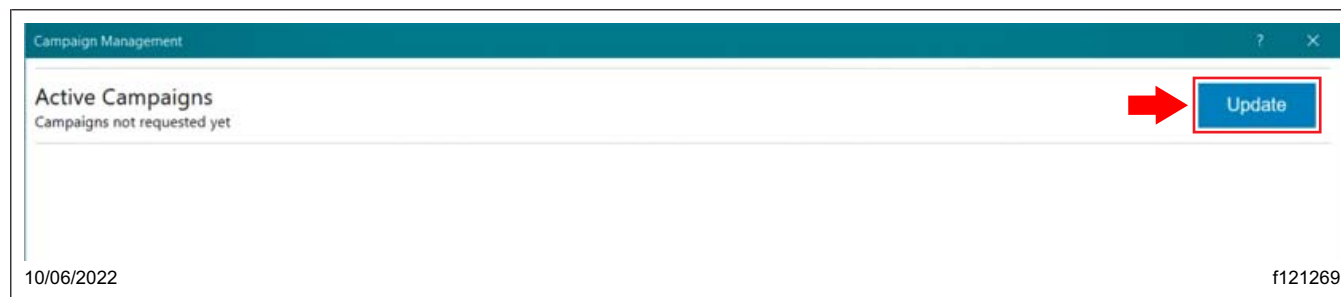

Fig. 9, Selecting Update
18.2 Select 'Update.' The list of active campaigns corresponding to the VIN, if any, will be displayed. See Fig. 9.